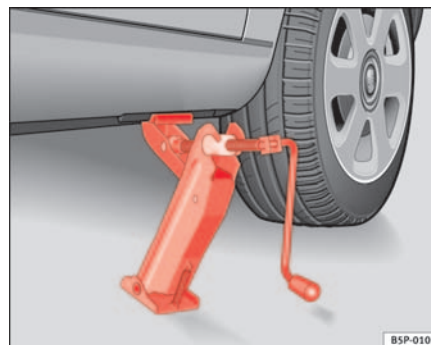

Fig. 168 Fitting the jack
- Align the jack so that the arm of the jack fits around the rib under the door sill and the movable base plate of the jack is flat on the ground ⇒ fig. 168.